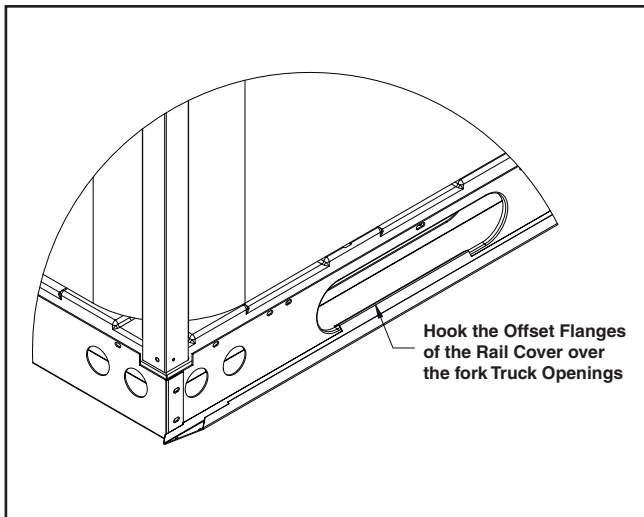
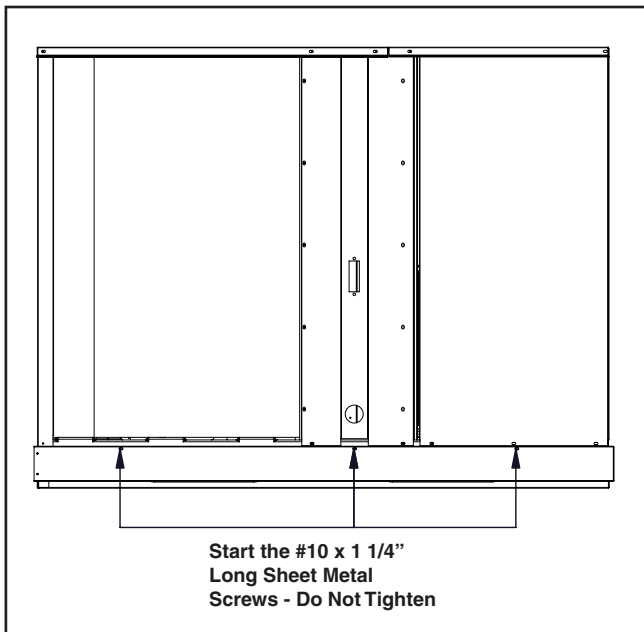

Figure 2a
Figure 2b
2. Install the first long rail cover by hooking the offset flanges of the rail cover into the fork truck openings of the base rail. (See Figure 2a below) Then rotate the rail cover up against the base pan wherein the upper edge of the rail cover is above the base rail and below the side sheet metal. (See Figure 2b below) Then where you had removed the #10 x 1/2" screws in step 1 use the #10 x 1 1/4" to loosely secure the rail cover to the unit base. – DO NOT TIGHTEN SCREWS.